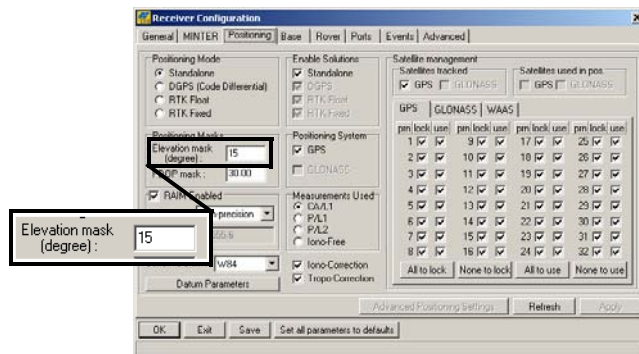

Figure 3-7. Configure Receiver Positioning – Elevation Mask
8. Click the *Positioning* tab and set the Elevation mask parameter to 15 (Figure 3-7), then click **Apply**.
4. Click the *Positioning* tab and set the *Position Masks, Elevation mask (degrees)* parameter to 15 (Figure 3-7 on page 3-10).